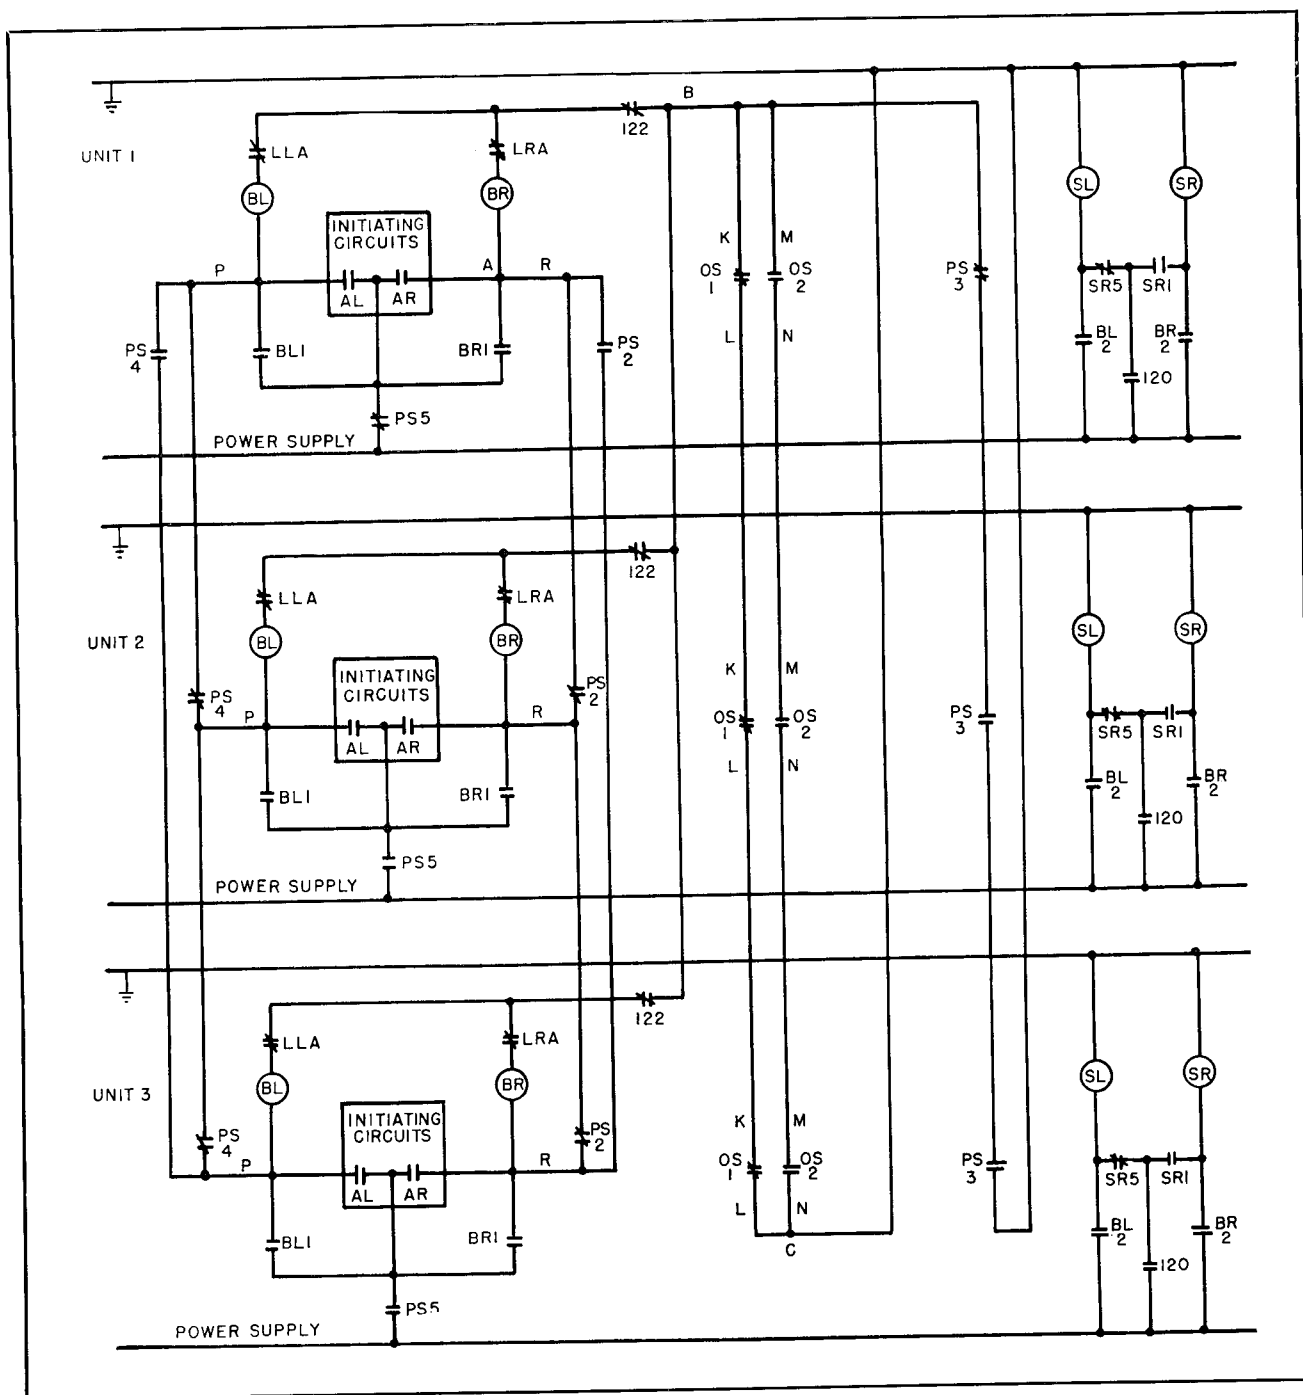

FIG. 1. Schematic Diagram of Out-of-Step Switch Control.
Fig. 1 shows a schematic diagram of the connections for parallel operation of three tap changers by out-of-step switch control. It will become evident as the discussion continues that, while three units are illustrated, the circuit will work equally well for two units or for more than three units by simply adding or subtracting identical units.
In Fig. 1, the paralleling switch (contacts PS2, PS3, PS4, PS5), is shown with unit 1 set to be the master unit and units 2 and 3 to be follower units. The cam-operated switches, OS1, OS2, LRA, LLA, 122, 120 are shown for an odd numbered position of the tap changer. (For an even numbered position, OS2 would be closed instead of OS1. For position 1, only, LLA would be open. For the maximum boost position only, LRA would be open). All relays are shown de-energized. The box marked "initiating circuits" represents all equipment, manual and automatic, for controlling the tap changer operation; that is, manual control switch, voltage
regulating relay, line drop compensator, time delay relays. The relays shown as "SL" and "SR" represent the motor control relays or contactors which complete the circuits to the motor to cause tap changer operation. Details of the initiating and motor control circuits are given in other instruction leaflets. Fig. 1 shows a Type 1 out-of-step switch.
Referring to Fig. 1, the sequence of operations of the controls is as follows:
2. For prolonged maintenance, making it undesirable to keep an operator on duty, the unit being serviced may be removed from the bank by leaving the unit on "parallel", but connecting points K to L, and M to N, and opening leads P and R on Fig. 1. These connections are shown on the wiring diagram furnished with the tap changer.